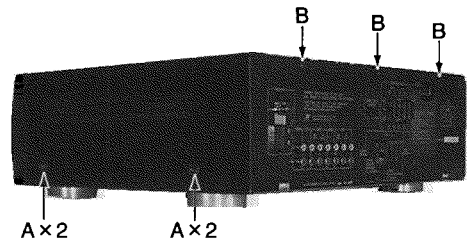

Fig.1
### (1) Top cover removal (See Fig.1)